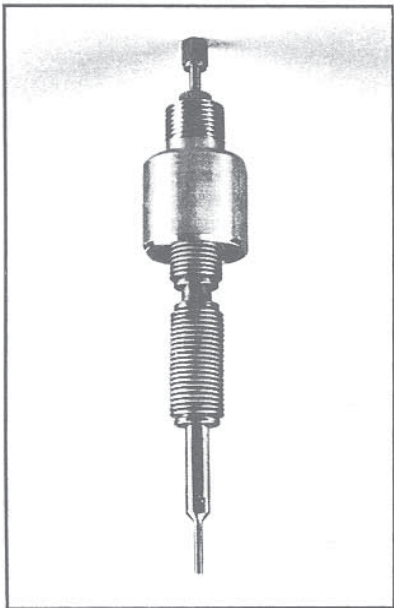

FIG. 17
8. Loosen and unscrew bonnet cap and bellows assembly from bonnet. (Fig. 17)